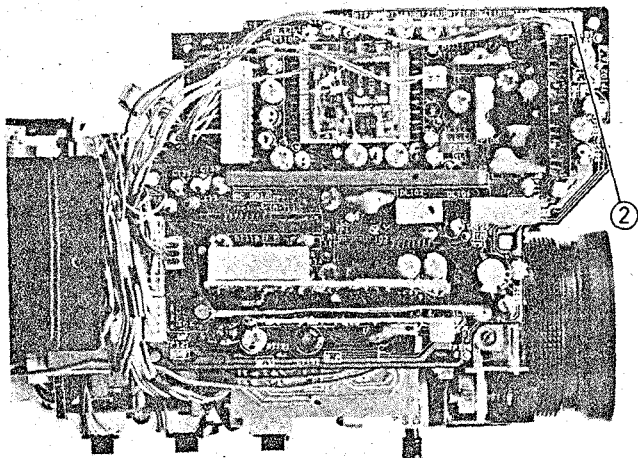

Fig. 2-34 Preamp Circuit Board Removal
2. Disconnect connector CN1107. (See Fig. 2-34)